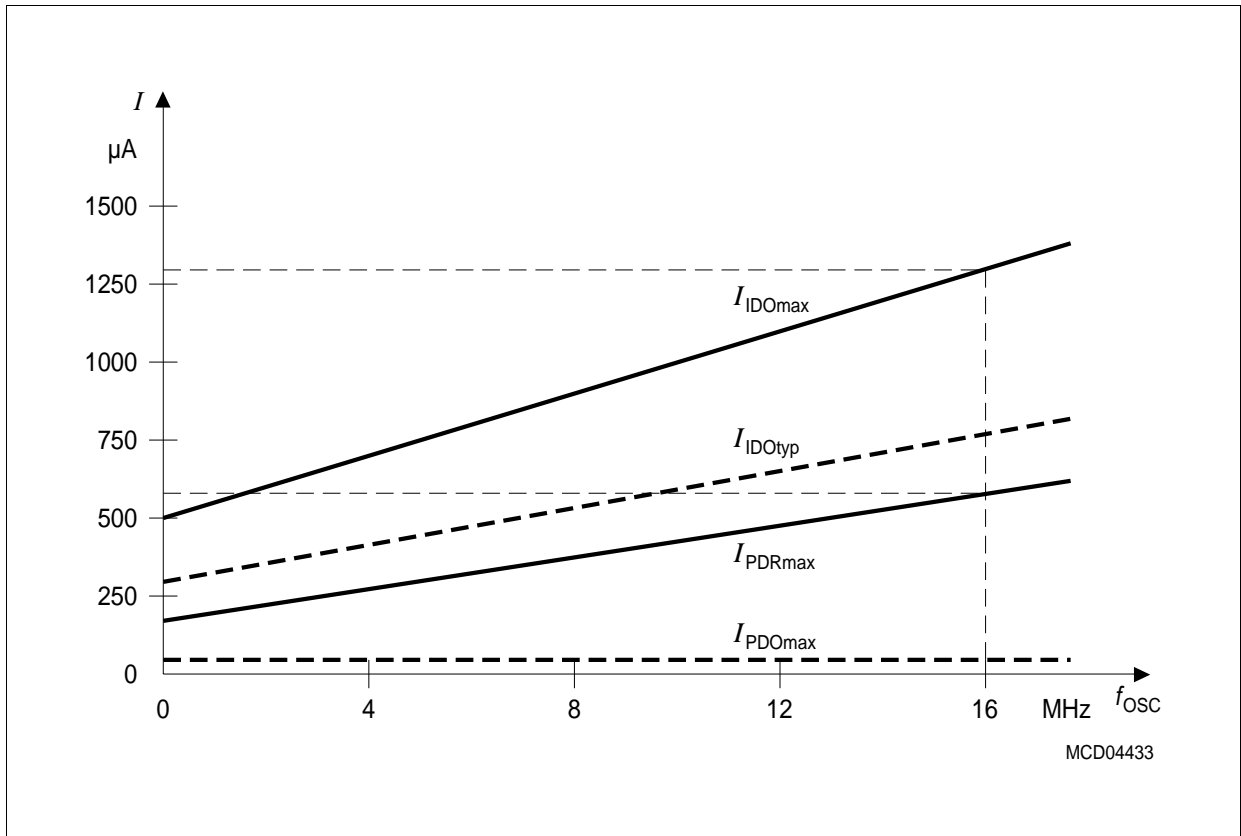

Figure 8 Idle and Power Down Supply Current as a Function of Oscillator Frequency
2) This parameter is determined mainly by the current consumed by the oscillator (see Figure 8). This current, however, is influenced by the external oscillator circuitry (crystal, capacitors). The values given refer to a typical circuitry and may change in case of a not optimized external oscillator circuitry.